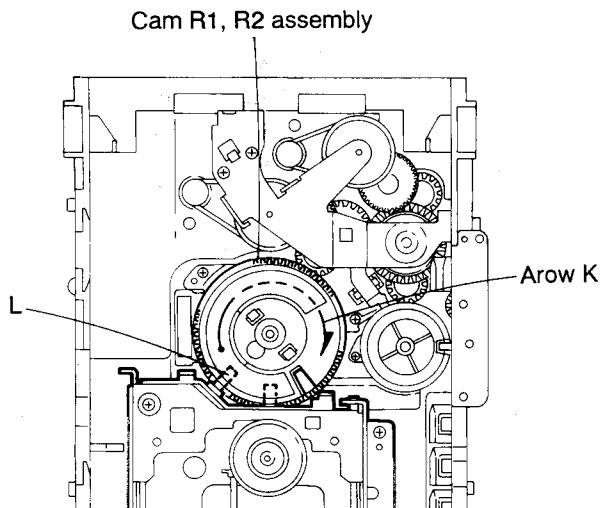

Fig. 5-40
### ■ Removing the CD mechanism (See Figs. 5-40 and 5-41)
1. For dismounting only the CD mechanism without removing the CD mechanism assembly, align the shaft (L) of the CD mechanism assembly to the position shown in Fig. 5-40 while turning the cam R1 and R2 assembly in the arrow direction (K).